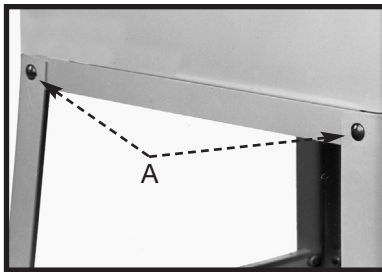

Fig. 11
3. Remove the two top left carriage bolts (A) Fig. 11, washers and nuts from saw stand and discard. Enlarge the holes using a 7/16" drill bit.